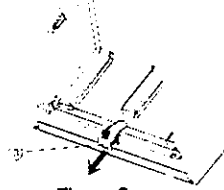

Figure 2
- 2- Pull out carefully (not to exceed two inches) the drain channel (plastic piece colored white) and marked B on Figure 2. Do not remove the blue cover out of its original place.